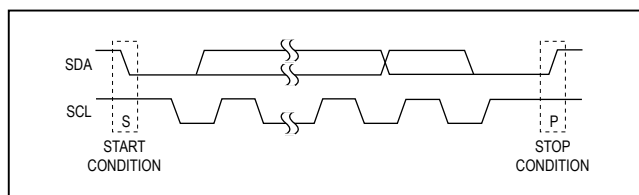

Figure 2. Start and Stop Conditions
Each transmission consists of a START condition sent by a master, followed by the MAX7319's 7-bit slave address plus R/W bit, then 1 or more data bytes, and finally a STOP condition (Figure 2).
Both SCL and SDA remain high when the interface is not busy. A master signals the beginning of a transmission with a START (S) condition by transitioning SDA from high to low while SCL is high. When the master has finished communicating with the slave, the master issues a STOP (P) condition by transitioning SDA from low to high while SCL is high. The bus is then free for another transmission (Figure 2).